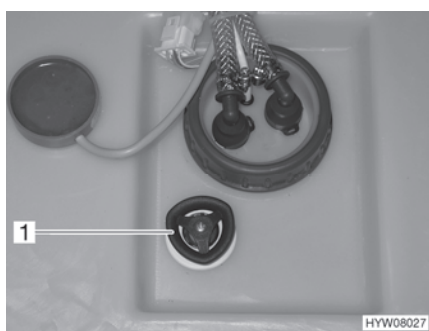

Fig. 113 Water tank with rotary handle
- Turn the rotary handle (Fig. 113,1) on the water tank in an anticlockwise direction as far as possible beyond the resistance to fully open the drainage opening.